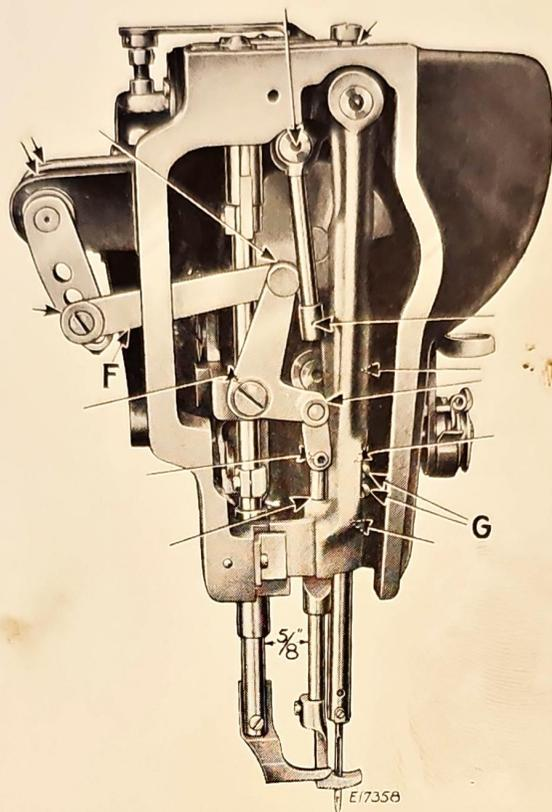

Fig. 4. End View of Machine Showing Oiling Points Also Adjustments on the Machine
In case the needle bar is not correctly set, loosen the needle bar connecting stud pinch screws at (G, Fig. 4) and place the needle bar in correct position as directed above, then retighten the screws (G).